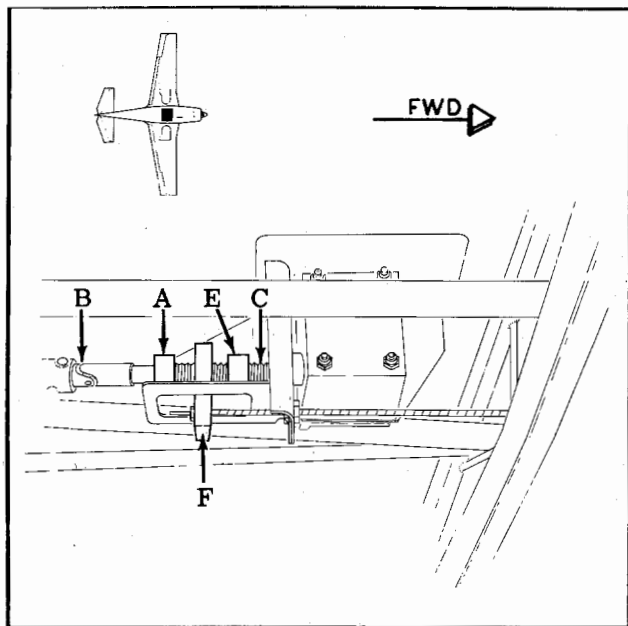

Figure 6-6. Trim Control Actuator Rigging
- a. Loosen setscrew in stop (A) Figure 6-6 and turn stop (A) clockwise or counterclockwise to align aft edge of stop (A) with last thread of trimscrew (C) Figure 6-6. Tighten setscrew and turn trim control wheel to full NOSE DOWN position (trim screw nut (F) against stop (A)).
- b. Disconnect torque shaft (B) from trim screw (C), Figure 6-6.
- d. Connect torque shaft (B) to trim screw (C) Figure 6-6. NOSE DOWN stabilizer trim control rigging is now complete.
- a. Loosen setscrew in stop (E) and turn stop on threaded shaft to move it toward the trim screw gear box. Turn trim control wheel toward NOSE UP position until horizontal stabilizer is within the following limits:
- b. Rotate stop (E), Figure 6-6 clockwise or counterclockwise to make contact with trim screw nut (F). Tighten setscrew. NOSE UP stabilizer trim control rigging is now complete.
Set horizontal stabilizer to the angle of incidence indicated in the chart below. Adjust trim indicator cable at (F) Figure 6-6 to set indicator in the cabin to the center of the takeoff range mark.